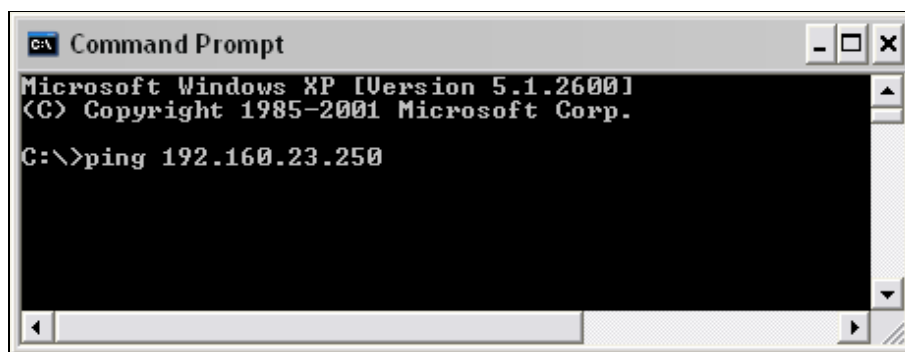

Figure 56: Command prompt window (under MS Windows) with a "ping" command.
- Then, connect the computer to the *KC600* via its *Ethernet* port (if not already done). To check if it is possible to gain access to the card address from the computer, open a "*Command prompt*" window (see *Figure 56*), normally available in the sub-menu "*Accessories*" from *MS Windows* program list. Then, write a "*ping*" command as follows (with the default IP address of a *KC600* card as an example):
- From the "**Command Prompt**" window (see *Figure 56*), send another "*ping*" command to the *KC600* card IP address to confirm that the communication is properly established between the devices. Otherwise, check the following: